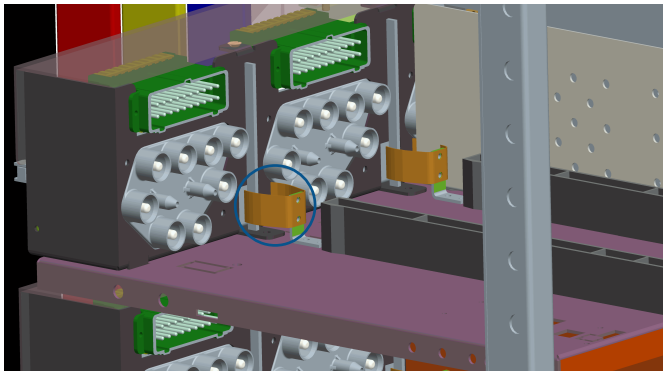

Figure 20 - Earthing for fractional module module
8. For the Fractional Modules, earthing is achieved through the fixed contact as highlighted in Figure 20 which is connected to the copper strip running at the bottom of the tray connecting to vertical earthbar.